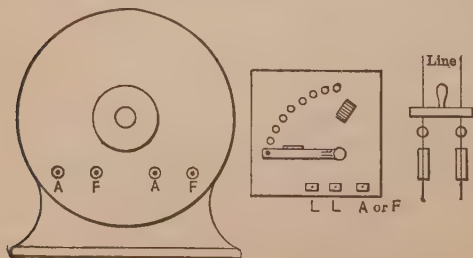

FIG. 152. Series motor and starter.
**Prob. 20.** Connect the series motor, Fig. 152, with the line through the box.